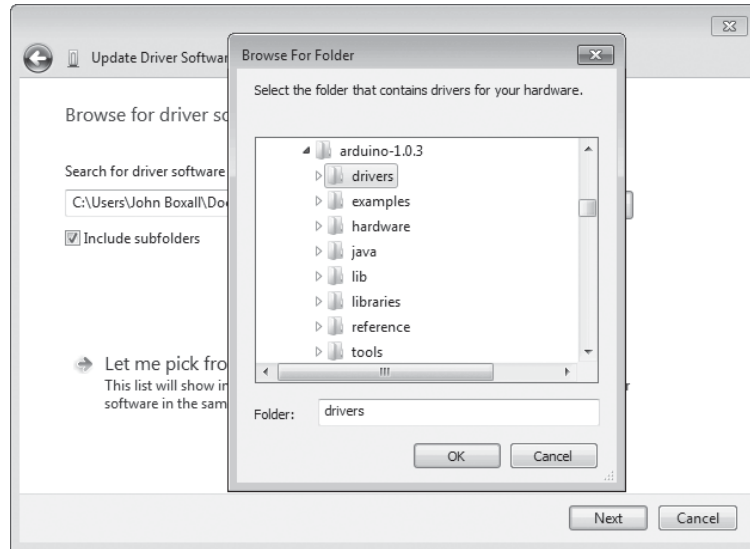

Figure 1-21: Locating the drivers folder
3. Right-click **Arduino Uno** under Other Devices and select **Update Driver Software**. Then, select the **Browse my computer for driver software** option that appears in the next dialog. Another Browse For Folder dialog will appear; click **Browse**, and navigate to the *drivers* folder in the newly installed Arduino software folder (shown in Figure 1-21). Click **OK**.